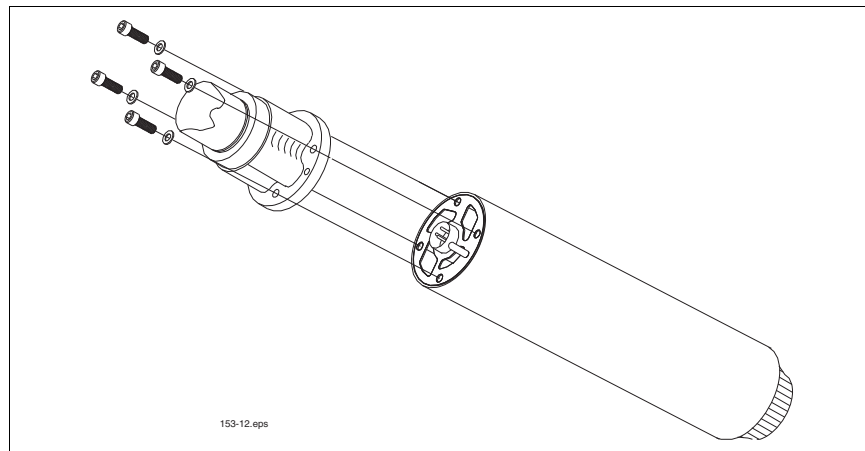

Figure 29. Removing The UMP
2. Remove the old UMP by removing the four bolts holding the discharge head as shown in Figure 29.